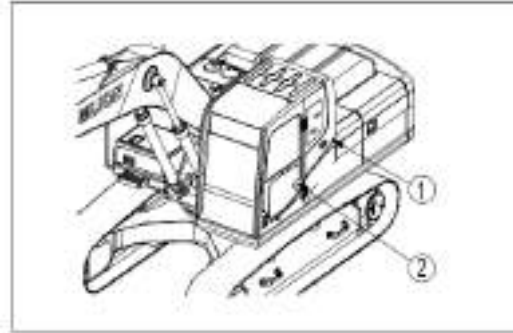

Figure 3-97 Door lock
When the door is opened, use the door lock as shown in Figure 3-97 to fix the door in place (1).
a). Push the door to the direction of the lock pin (1) to fix the door in place.
b). When opening the lock, press the button (2) at the left side of the driver's seat to open the lock pin.